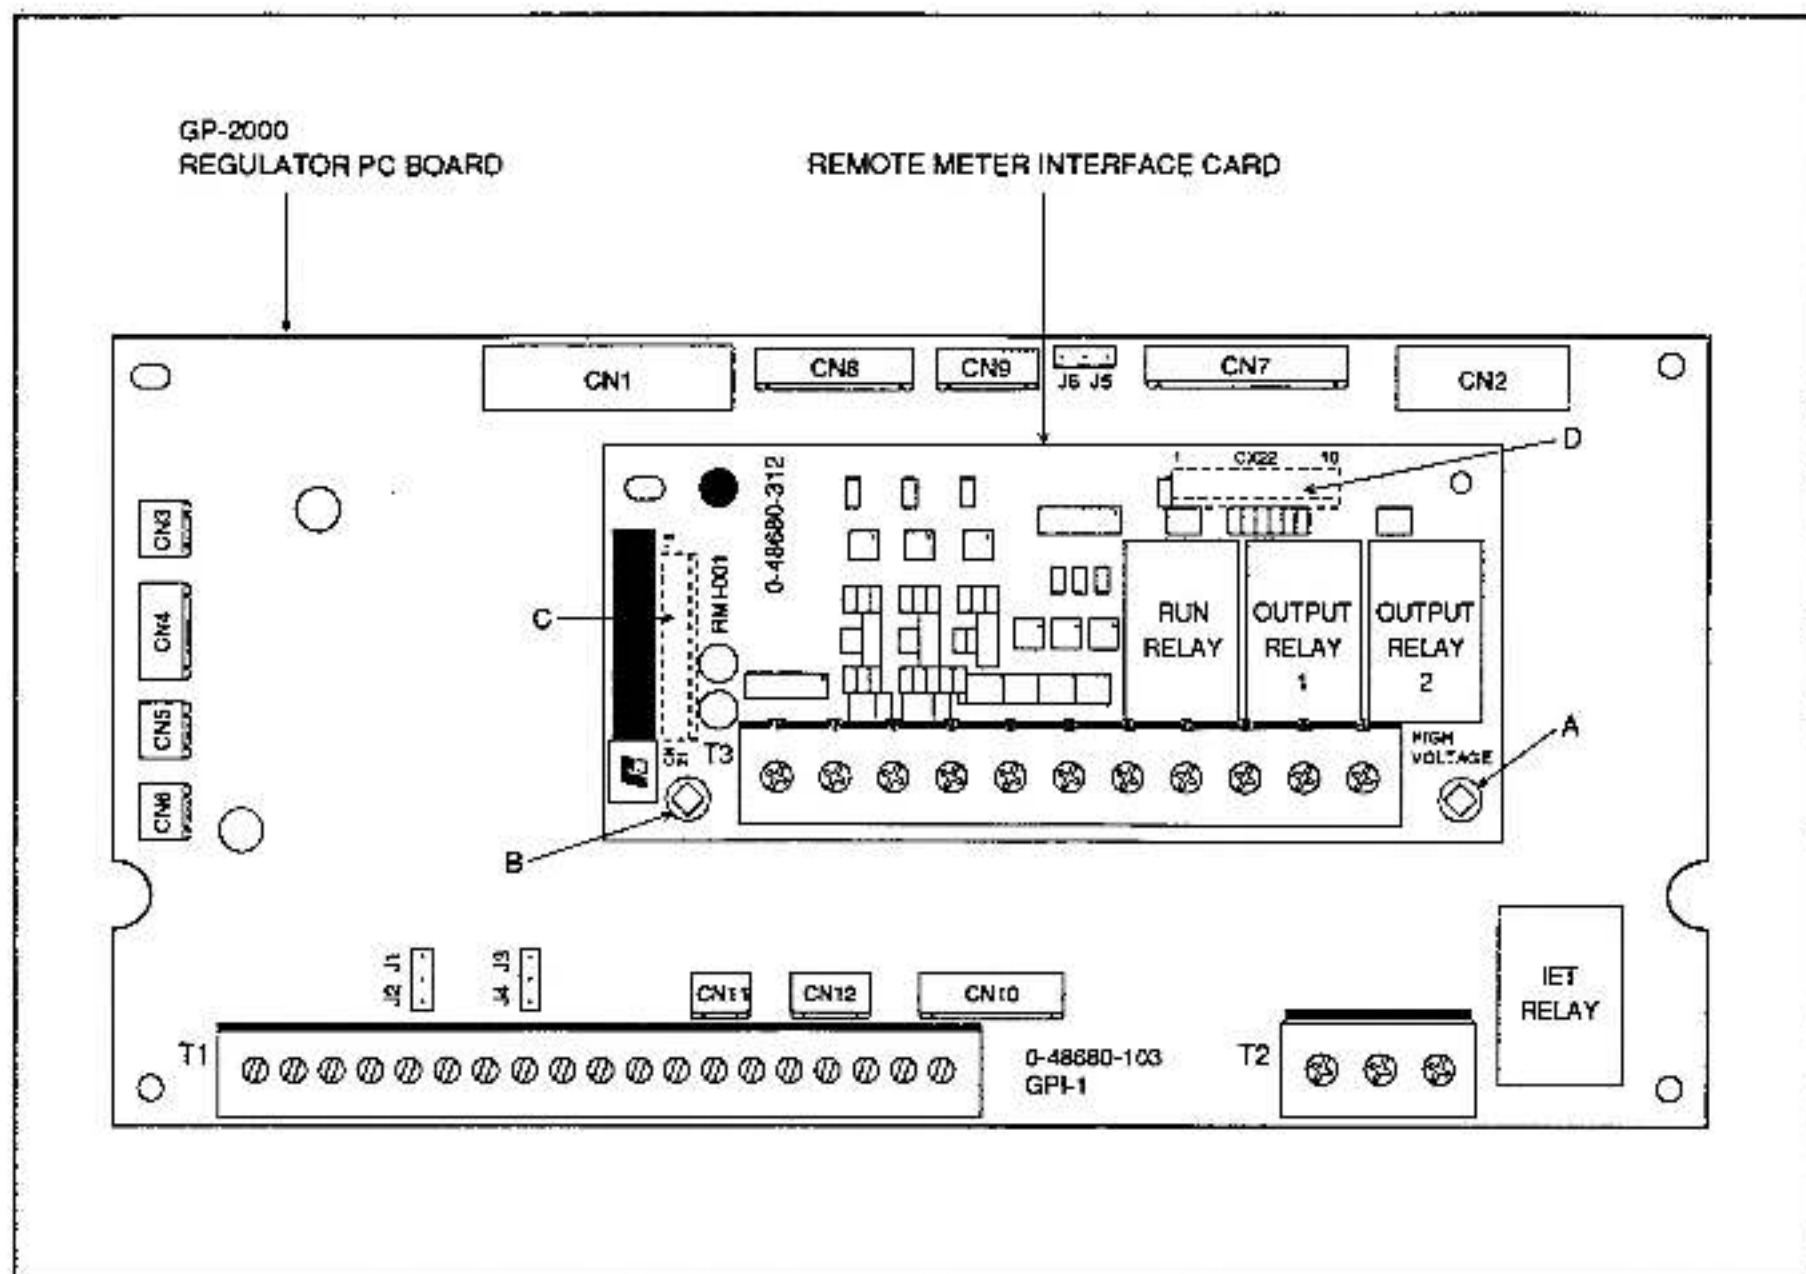
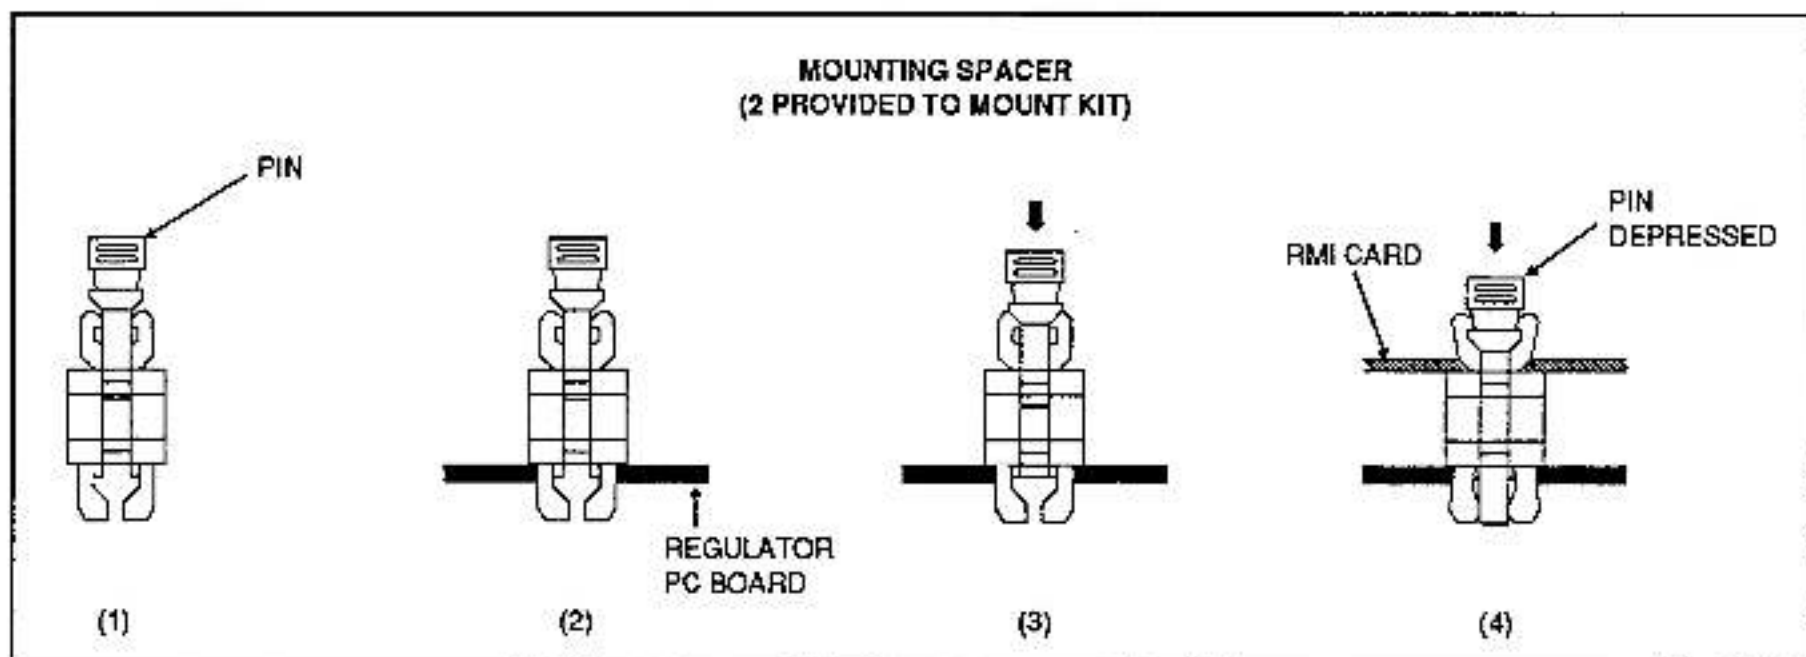

Figure 2. Installation Location.
Figure 3. Installation for Spacers.
3. Locate the two spacers with pins as shown in Figure 3 (1).
4. Put the spacers into the two holes (A and B in Figure 2) on the regulator printed circuit board. See Figure 3 (2).
5. Press the pins slightly to temporarily maintain the spacer vertically on the regulator. See Figure 3 (3).
6. The RMI card has two connectors (C and D in Figure 2) on the back side. Fit the two connectors of the kit on the two connectors on the regulator and fit the two holes (A and B in Figure 2) in the spacers on the regulator. Press the RMI card on the regulator to connect the two connectors.
7. Press the pins firmly to lock the RMI card and the spacers on the regulator. See Figure 3 (4).